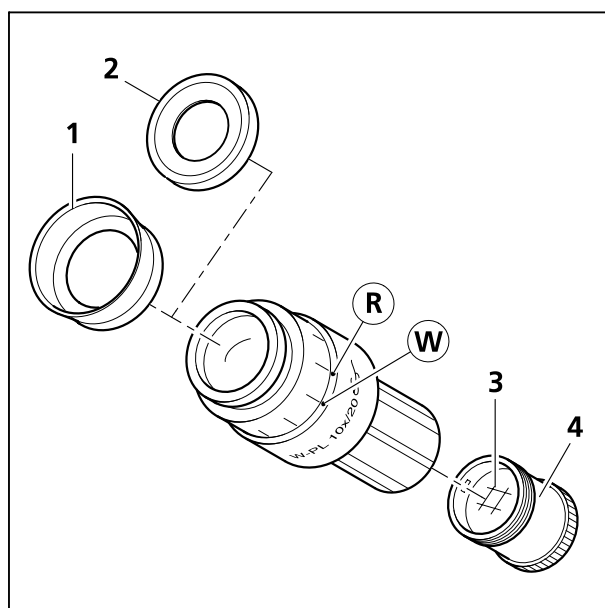

Fig. 17 Inserting the eyepiece reticle
The eyepieces have a rubber ring each to protect the lenses of spectacles against scratches. The protection rings can be replaced with fold-over eyecups (Fig. 17/1) when required.
- Remove the protection rings (Fig. 17/2) from the eyepieces and attach the eyecups (Fig. 17/1).
The slight image shift caused by the additional path through glass is taken into account on the diopter scale by the fact that the zero point position is indicated not by the white dot (Fig. 17/W), but the red dot (Fig. 17/R).
In the eyepiece W-PL 10x/23 Br. foc. (455043-0000-000) and E-PL 10x/20 Br. Foc. (444132-9902-000) the eyepiece reticles (Fig. 17/3) have been adhered to screw-in mounts (Fig. 17/4) by the manufacturer for easy replacement. Complete mounts with reticles adhered can be ordered directly from Zeiss.
- Unscrew the existing mount (Fig. 17/4) with eyepiece reticle (Fig. 17/3) from the eyepiece, without exerting heavy radial pressure on the diaphragm unit in order to avoid deformation and jamming. Replace it with a new mount containing the eyepiece reticle required.